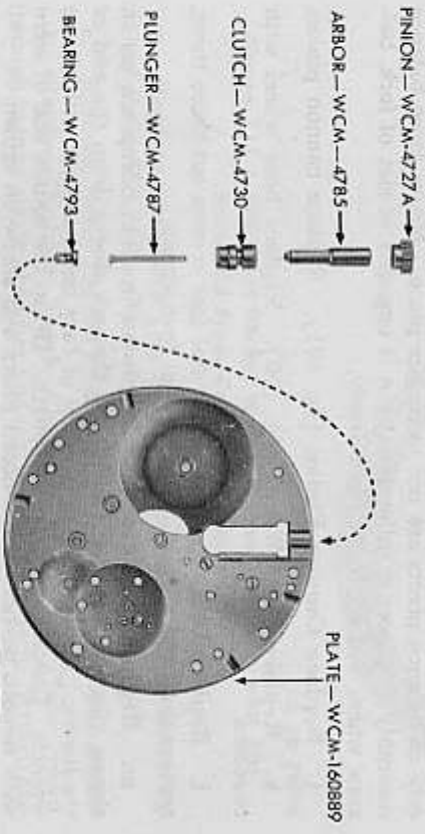

Figure 109 — Waltham Pocket Watch — Winding Arbor Assembly Removed
- r. Remove Winding Arbor Assembly (fig. 109). Remove winding arbor assembly by grasping stem end with tweezers. Lift up and slide winding arbor assembly off pillar plate. Strip assembly by removing winding pinion, clutch, and setting plunger from the winding arbor. Insert tweezers in winding arbor bearing and pry it off pillar plate. This strips the movement down to the pillar plate, leaving only the hole jewel assemblies and the banking screws in place. If a 9-jewel movement, it will leave the bushings of the train wheel pivots in their place.